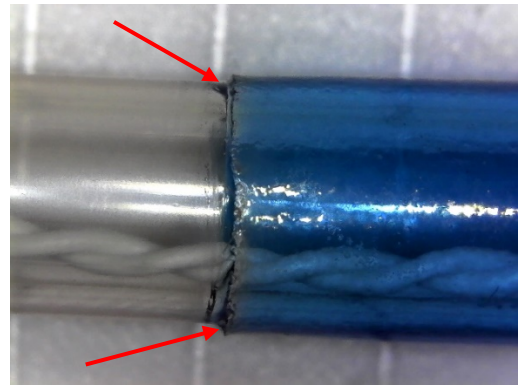

Figure 1: Rough transition between balloon and PVC tube (Competitor's ES)
New initiatives and evidence based practice guidelines recommend to maintain normothermic temperature, measure and record the patient's body temperature for all surgeries greater than a ½ hour in length. As such the use of temperature monitoring probes such as the Esophageal Stethoscope with temperature sensor (ES) are common practice. However, not all Esophageal Stethoscopes are created equal or with the patient in mind. Many manufacturers reduce production costs by utilizing components that are "universal" between different size devices, which leads to issues with fitment. This, combined with manufacturing processes that are more cost efficient but less caring, lead to rough cuts and uneven edges known to cause esophageal trauma and patient discomfort. In fact, it was reported to the FDA MAUDE event reporting system that a competitor's ES caused "massive esophageal bleeding from laceration to the esophagus as the tip of the product was inserted". **Figure 1** displays the rough edge at the balloon tubing interface of the competitor's device, this is most likely the cause of the above mentioned complaint. Another area on standard ES's that can cause possible tissue trauma is the tip of the tube covered by the balloon. Most manufacturers fail to take the extra step to bevel the tube tip leaving it sharp and abrasive. Tubes that are not beveled can cause the balloon to tear interfering with sound transmission and they may also cause esophageal laceration.